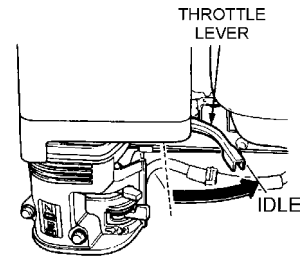

Figure 14. Throttle Lever (Idle)
1. Move the throttle lever to the IDLE position (Figure 14) and run the engine for three minutes at low speed.